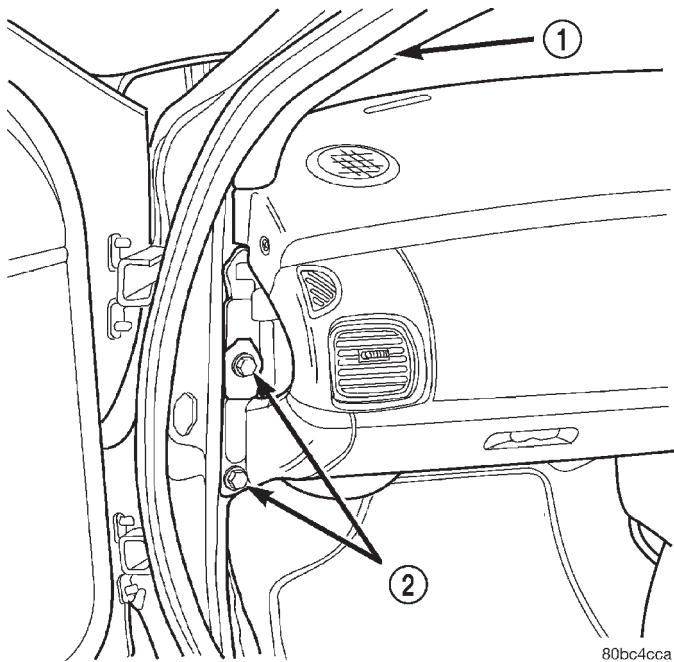
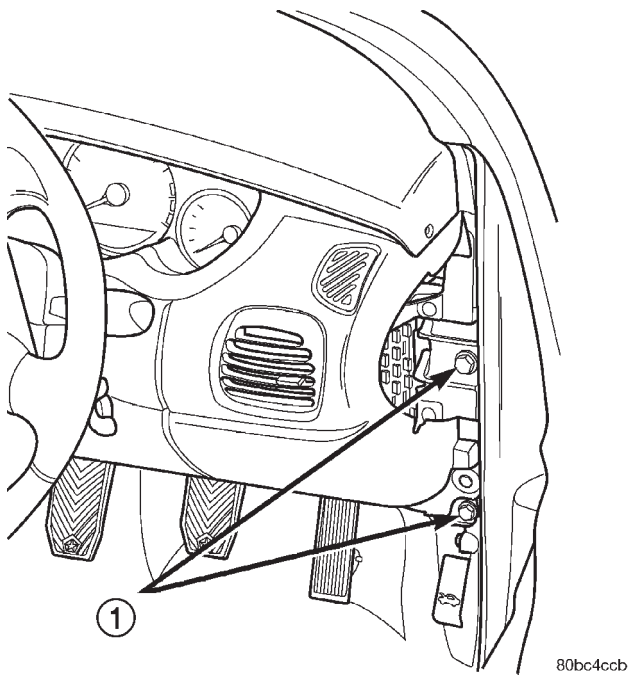

Fig. 17 Left I. P. Retaining Bolts
Fig. 18 Right I. P. Retaining Bolts
(2) With assistance from another person, guide the HVAC control head through the I. P. opening while installing the instrument panel.
(3) Install the (4) I. P. retaining bolts on the right and left side body side cowls (Fig. 17) (Fig. 18). Torque the bolts to 28 N·m (250 in. lbs.).